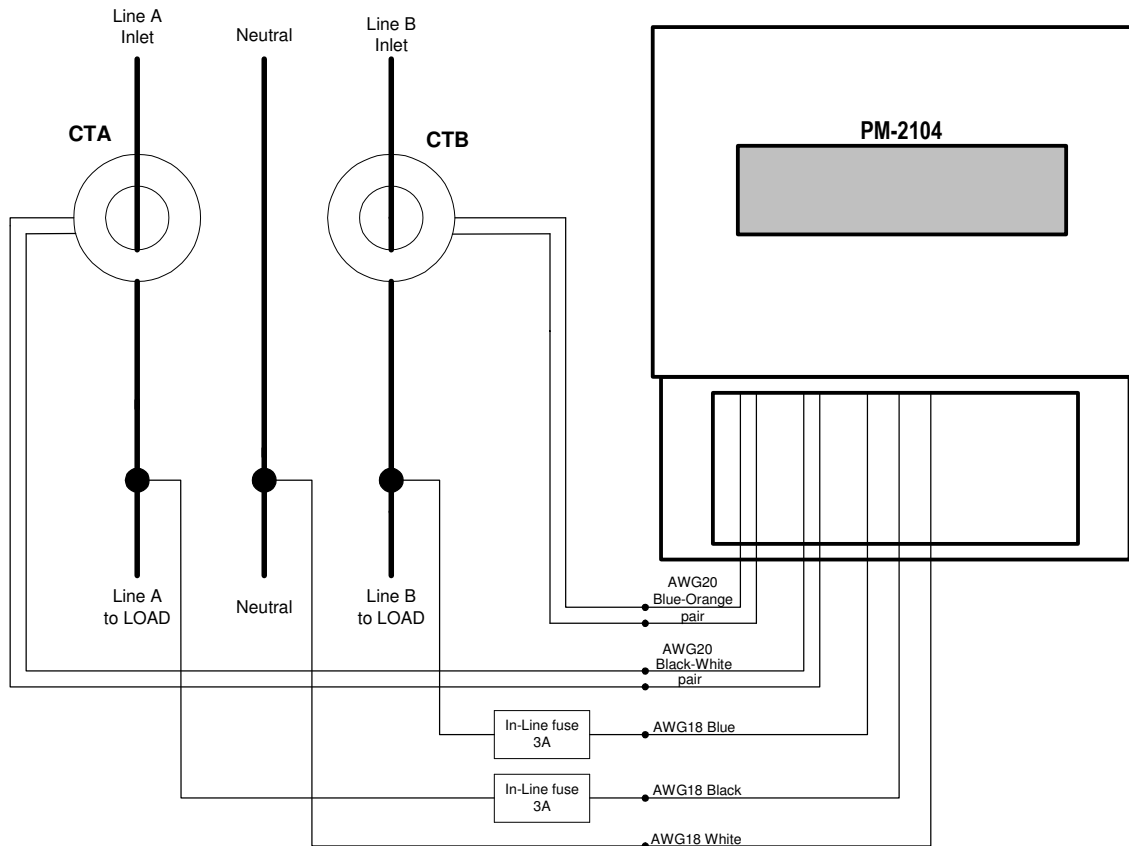

Fig 2. PM-2104 Two-phase Connection Diagram.
2. Put on the external current transformers (CTA and CTB on Fig 2) on the power line cables.